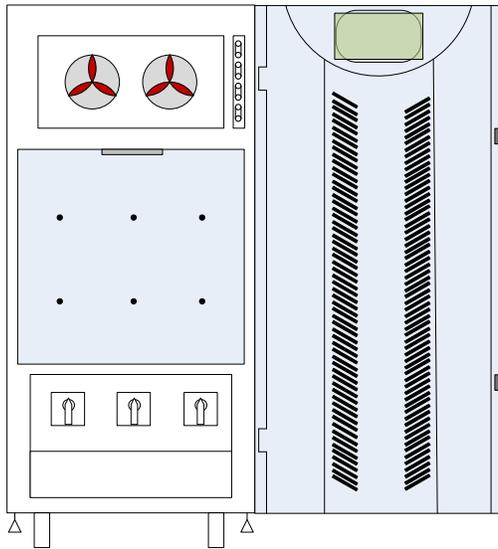

Fig. 5-8
1. Open front door of the UPS by pulling on the left-hand side (Fig 5-8).